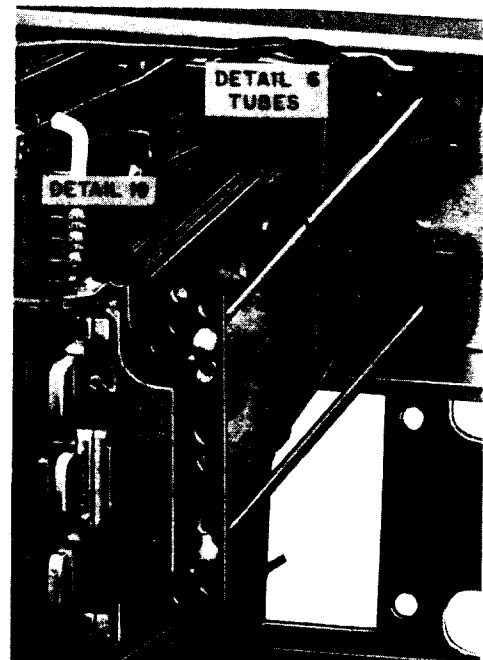

Fig. 24—Detail 6 Tubes on Terminal Rods
4.59 Apply detail 19 (Fig. 24) clip on the front tip of the new coil, core, and armature assembly. This clip will hold both the armature core and coil together until all parts fit into terminal bracket.
4.60 Insert terminals of the new relay coil into detail 6 tubes, and guide the terminals into their respective holes in the terminal bracket. Upper detail 6 tubes should protrude approximately 1 inch ahead of the lower tubes to facilitate insertion into the terminal bracket. The tubes are used to prevent shorting of the coil terminals. (See Fig. 24).
- 4.82** Apply detail 19 (Fig. 24) clip on the front tip of the new coil, core, and armature assembly. This clip will hold the armature core and coil together until all parts will fit into terminal bracket.
4.104 Apply detail 19 (Fig. 24) clip on the front of the new coil, core, and armature assembly. This clip will hold both the armature and coil together until all parts will fit into the terminal bracket.